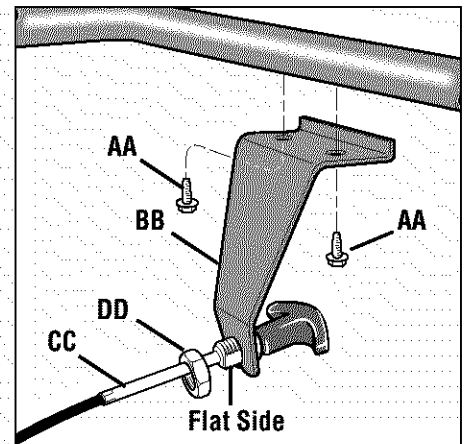

Fig. 2-8: Install reverse cable bracket and reverse clutch cable.
1. Unwrap the reverse clutch cable (CC, Fig. 2-8 and Fig. 2-9) from its shipping position and route it up to the handlebar. Be sure that the cable is routed beneath the Forward Clutch Bail.
2. Using the two self-tapping screws (AA, Fig. 2-8) secure the reverse cable mounting bracket (BB) to the handlebars, as shown.
3. Insert the cable (CC, Fig. 2-8) through the slot in the cable bracket and position the flat side of the threaded assembly next to the flat side of the hole. Slide the hex nut (DD) up the cable and tighten it securely.